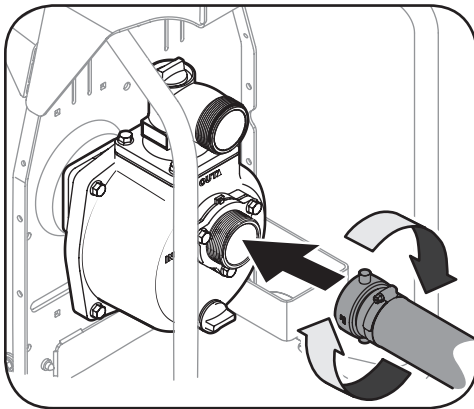

Figure 4-5
2. Connect the suction hose to the pump's suction port. See Figure 4-5.